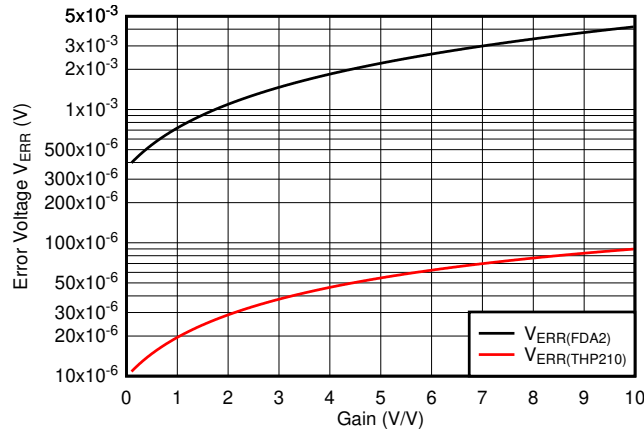
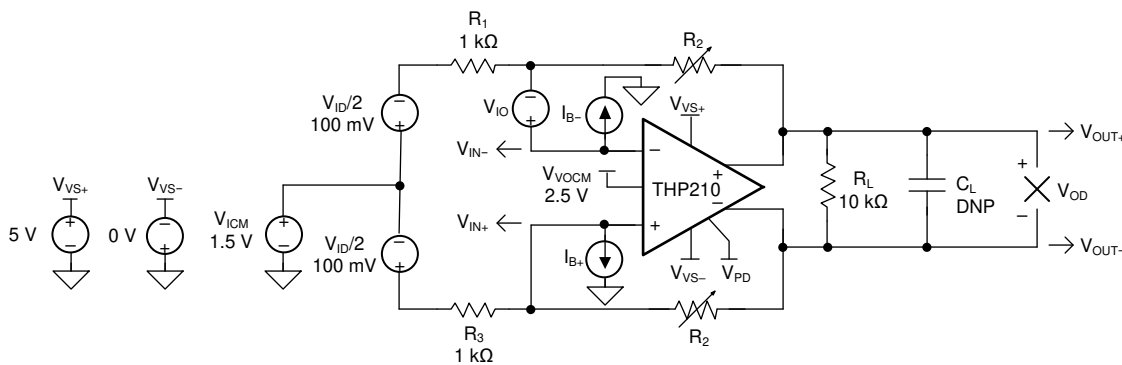

Figure 9-1. TINA-TI™ Software Simulation of DC Error Voltage at Different Gain Settings (Variable R₂)
Figure 9-2. FDA DC Error Model
The THP210 super-beta input device features extremely-low input bias current, trimmed low input offset voltage, and the lowest offset drift over the full temperature operating range. These features allow the device to produce a negligible initial error band at 25°C, but also exceptional robust behavior over temperature. The red curve in Figure 9-1 showcases a simulation of the total dc error voltage at 25°C versus different gain configurations based on the application configuration shown in Figure 9-2.
- Circuit configuration as shown in 图 9-2